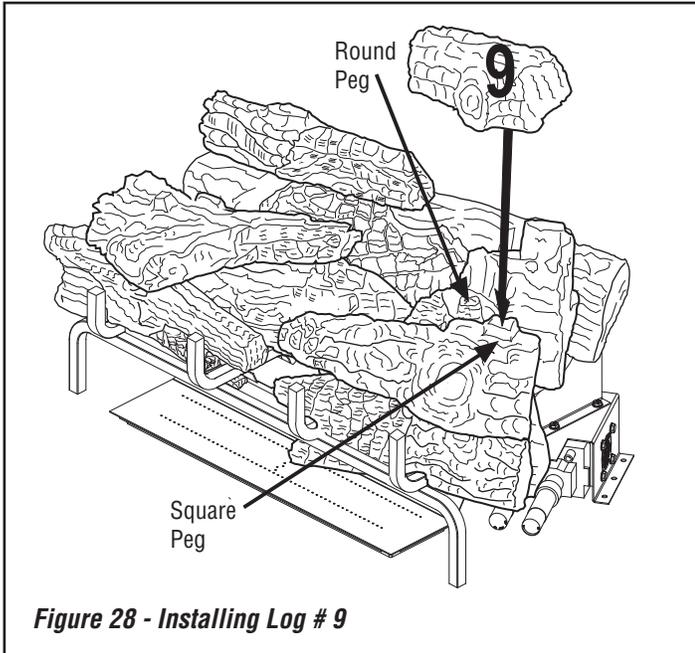

Figure 28 - Installing Log # 9
9. Place the top right log (#9) on top of the right rear chunk log (#7) and front right mid log (#8) as shown in **Figure 28**. Match the round peg on the top of the right rear chunk log (#7) with the round hole on the bottom of the top right log (#9) and square peg on the top of the front right mid log (#8) with the square hole on the bottom of the top right log (#9).